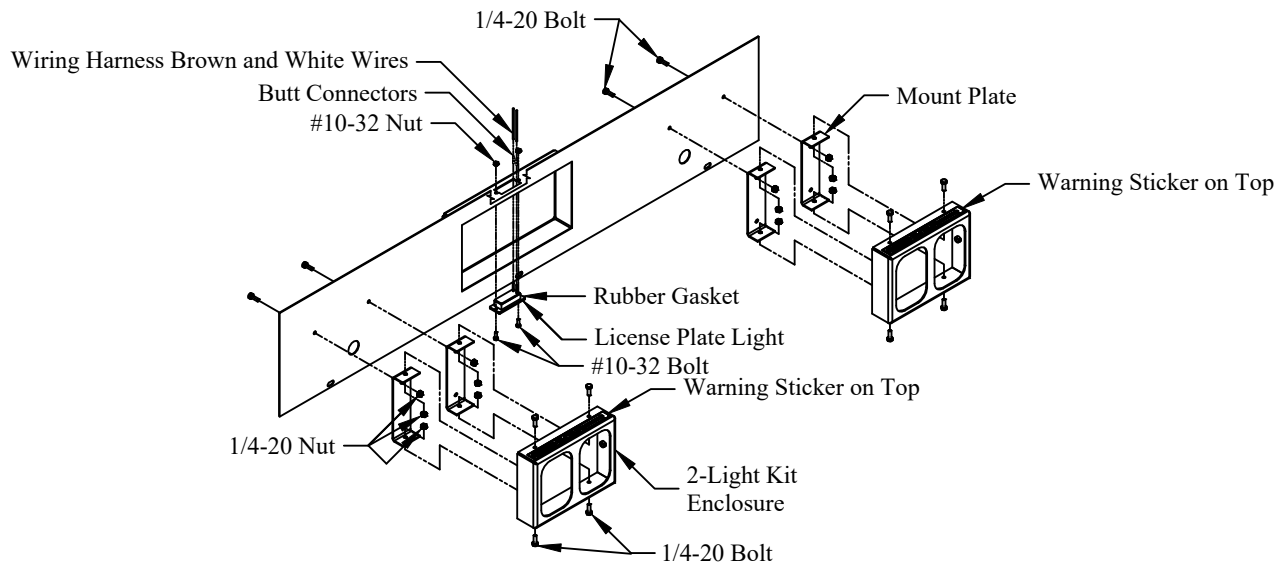

Figure 6: Box Cover Assembly
- 1. Loosely Attach** two (2) mount plates to the back of each enclosure using two (2) 1/4-20 nuts and bolts per mount plate (Figure 6).
- 2. Loosely Attach** each enclosure to the box cover using one (1) 1/4-20 nut and bolt through the upper hole of each mount plate (Figure 6).
- Note: Ensure the warning stickers are on top (Figure 6).
- 3. Tighten** the twelve (12) nuts and bolts attached in steps 1 and 2.
- 4. Ensure** the rubber gasket is in place on the license plate light (Figure 6).
- 5. Mount** the license plate light using two (2) #10-32 nuts and bolts (Figure 6).
- 5. Splice** the license plate light wires to one pair of the blunt-cut white and brown wires (Figure 6).